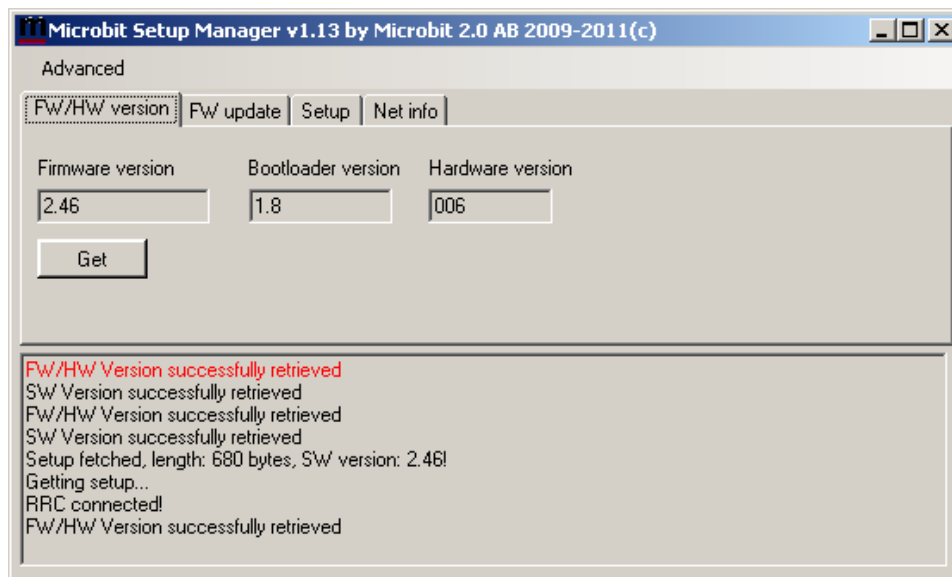

Figure 5
3. Launch the Microbit Setup Manager you installed. You should see a window similar to Figure 5 reporting that your computer is communicating with the RRC-1258 unit and that it has successfully retrieved the firmware (FW) and software version (SW).